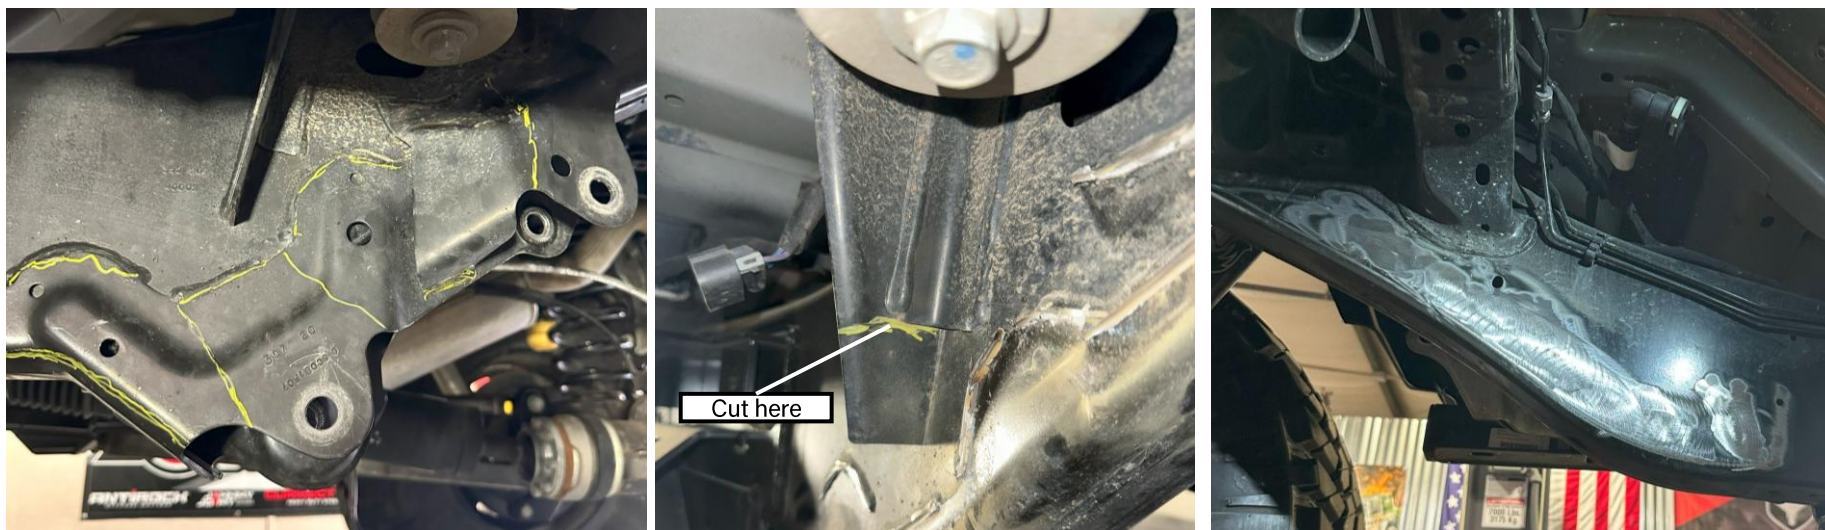

Figure 53: Grind lines to remove OEM control arm bracket and body mount
30. Begin marking the OEM control arm bracket for removal. Following similar cuts marked in yellow (**as seen in Figure 53 below**) may help speed up the removal. Make multiple cuts and remove sections of the bracket at a time until none of the bracket remains on the frame. It is recommended to cut the bracket just below the weld and then grind the weld flat.
Also, mark the tail-end of the body mount and cut until the inside gusset joins the mount. **See Figure 53 below.** Grind the remaining welds on the frame from where the OEM bracket once sat. Paint the area and wait for the paint to dry before installing the new long arms.